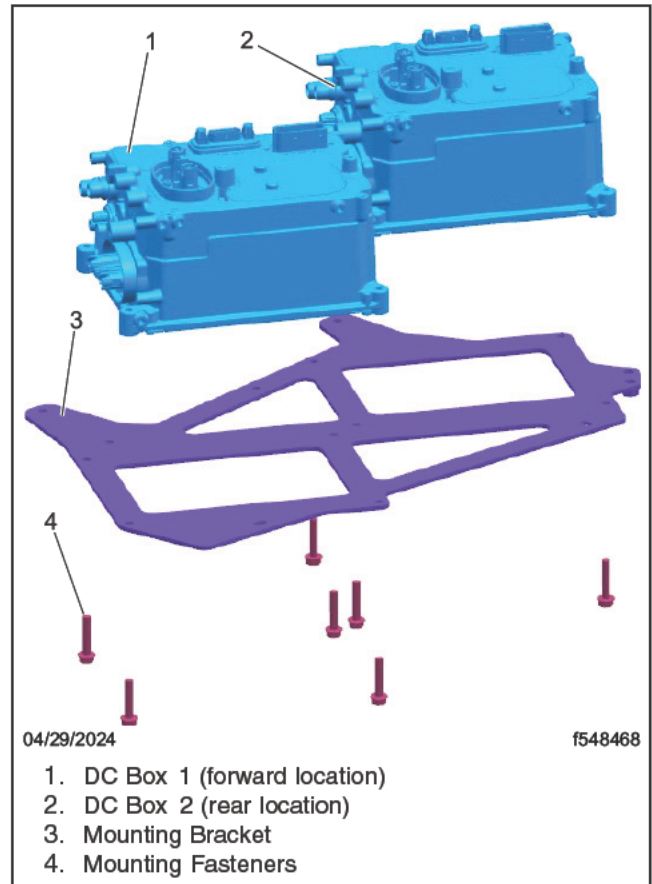

Fig. 3, Removal of DC Boxes
17. Remove the DC boxes from the mounting bracket. See Fig. 3
43. Install the DC boxes on the mounting bracket, and install the fasteners that attach the DC boxes to the mounting bracket. Tighten the fasteners 115 lbf·in (1300 N·cm). See Fig. 3.